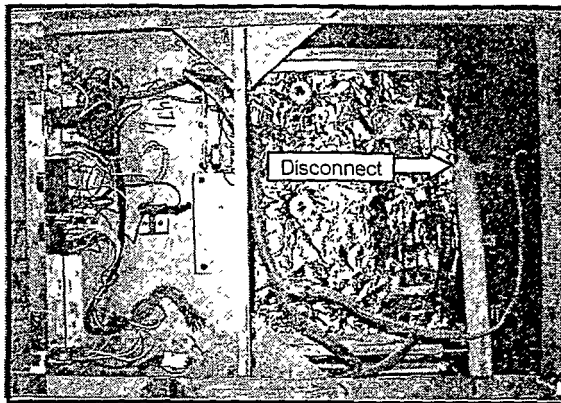
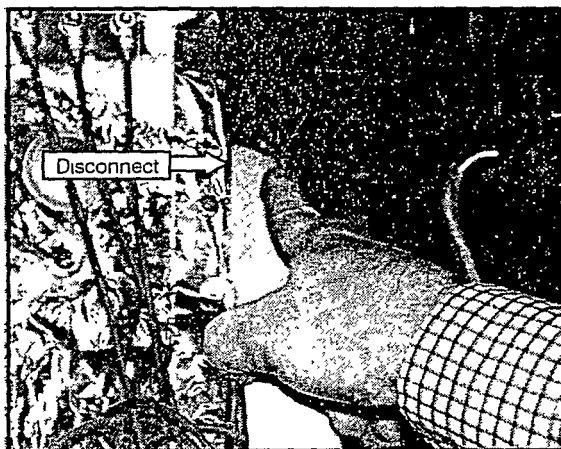

Figure 17 Upper Section Steam Line Disconnect
Figure 18 Lower Section Steam Line Disconnect
9. Disconnect and remove the steam lines to the upper and lower oven sections at locations shown in Figure 17 and Figure 18. The top of the hose is secured with a band clamp. The bottom of the hose pulls out of the boiler in the oven base section.